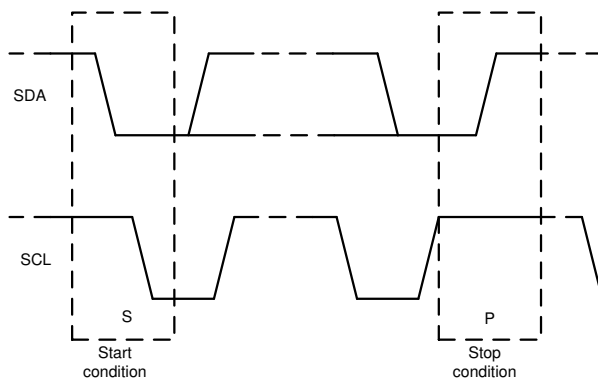

**Figure 7-18. Acknowledge and Not Acknowledge on the I2C Bus**
Other than specific timing signals, the I2C interface works with serial bytes. At the end of each byte, a ninth clock cycle generates and detects an acknowledge signal. An acknowledge is when the SDA line is pulled low during the high period of the ninth clock cycle. Figure 7-18 depicts a not-acknowledge, when the SDA line is left high during the high period of the ninth clock cycle.
2. The controller then generates the SCL pulses, and transmits the 7-bit address and the read/write direction bit ( $R/\bar{W}$ ) on the SDA line. During all transmissions, the controller makes sure that data are valid. Figure 7-20 shows that a valid data condition requires the SDA line to be stable during the entire high period of the clock pulse. All devices recognize the address sent by the controller and compare the address to the respective internal fixed address. Only the target device with a matching address generates an acknowledge by pulling the SDA line low during the entire high period of the 9th SCL cycle (see also Figure 7-18). When the controller detects this acknowledge, the communication link with a target has been established.